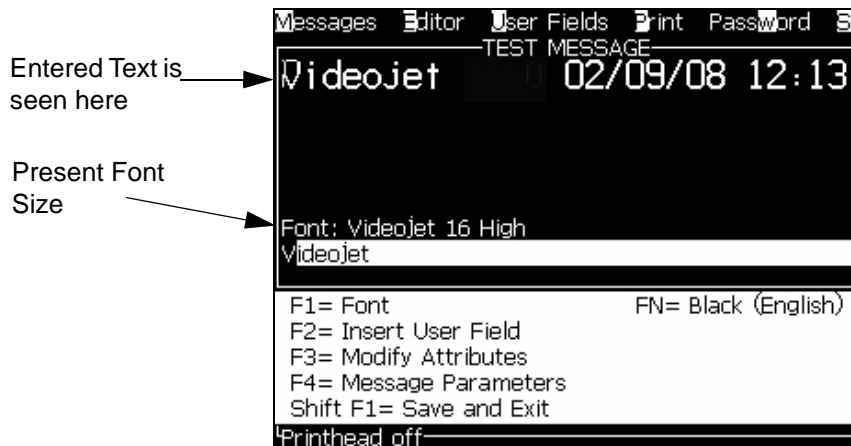

Figure 5-6: Create New Message
- 4 Press the *Enter* key. The Message Editor screen appears (see Figure 5-6 on page 5-17).